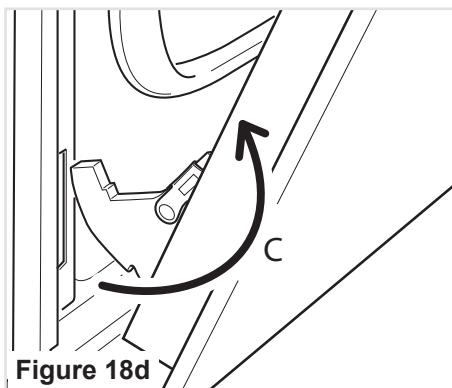

Figure 18d
- Withdraw the hinge hooks from their location following arrow “C” (fig. 18d).